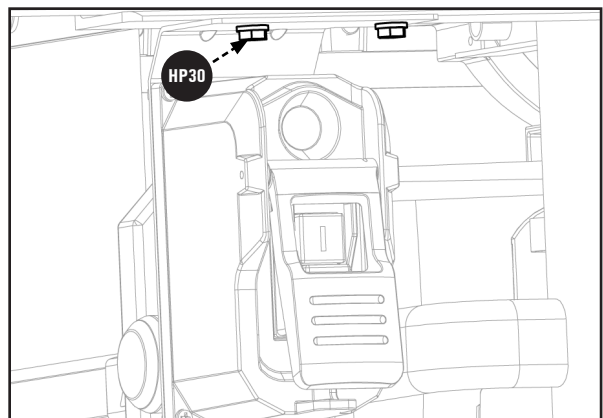

Figure 15
- Align the two holes in the switch box bracket with the holes underneath the front rail, shown in Figure 15, located on the left side of the saw. Secure the switch box **F3** to the front rail using two 1/4 20 x 1/2 inch Hex Screw w/ Split Lock Washer **HP19**.